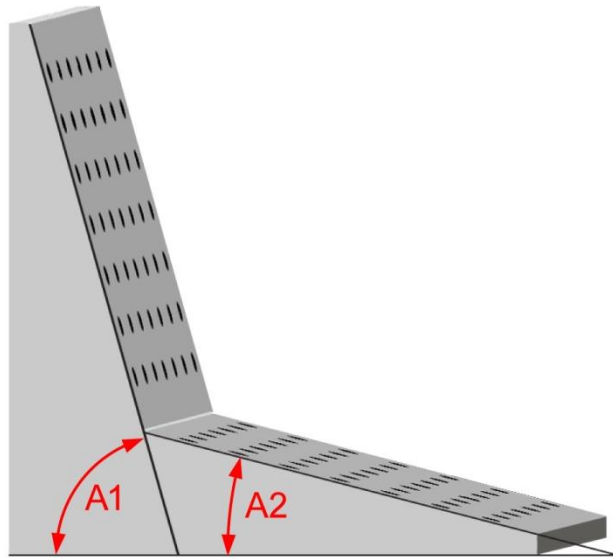

Figure 1. Top and Bottom Face Angle Measurements A1 and A2
1. Use a digital level to measure the angles of the top and bottom faces as shown in Figure 1 and record these angle values. These measurements determine the orientations of the faces of the fixture.